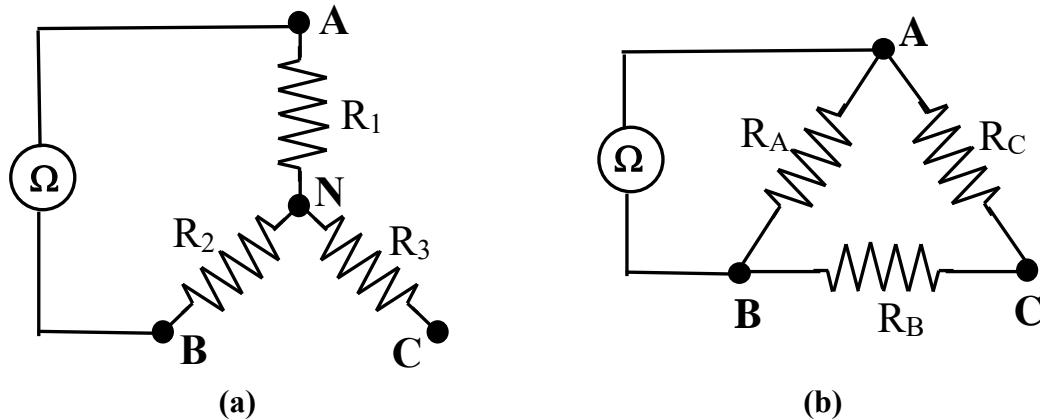

Figure 4
2. Connect the resistances R_1 , R_2 and R_3 in star as in Figure 4(a).
5. Re-adjust the three resistance boxes to the calculated values in step 4 for R_A , R_B and R_C and connect them in delta as in Figure 4(b).